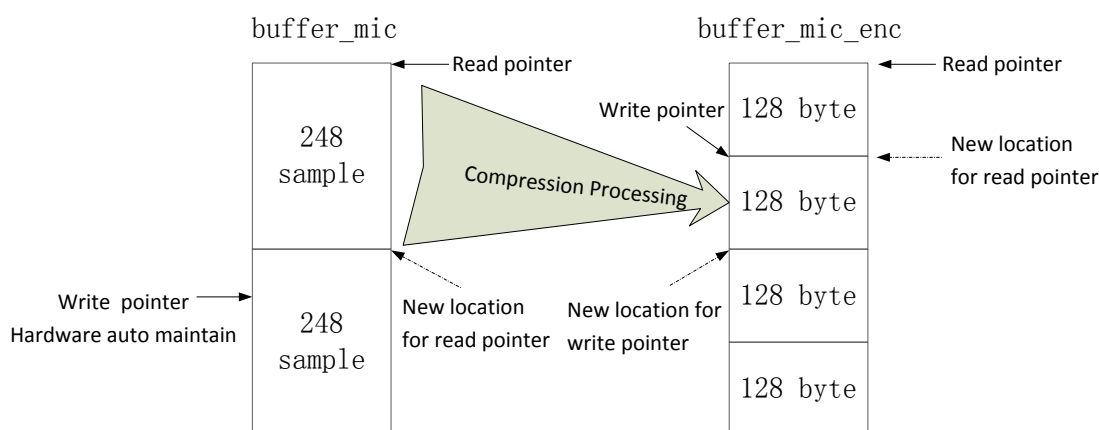

Figure5-5 Compression processing
- ✧ “ps” points to the starting storage address for data before compression, which corresponds to the read pointer location of the buffer\_mic as shown in Figure5-5;
- ✧ “len” is configured as TL\_MIC\_ADPCM\_UNIT\_SIZE (248), which indicates 248 samples;
- ✧ “pds” points to the starting storage address for compressed data, which corresponds to the write pointer location of the buffer\_mic\_enc as shown in Figure5-5.